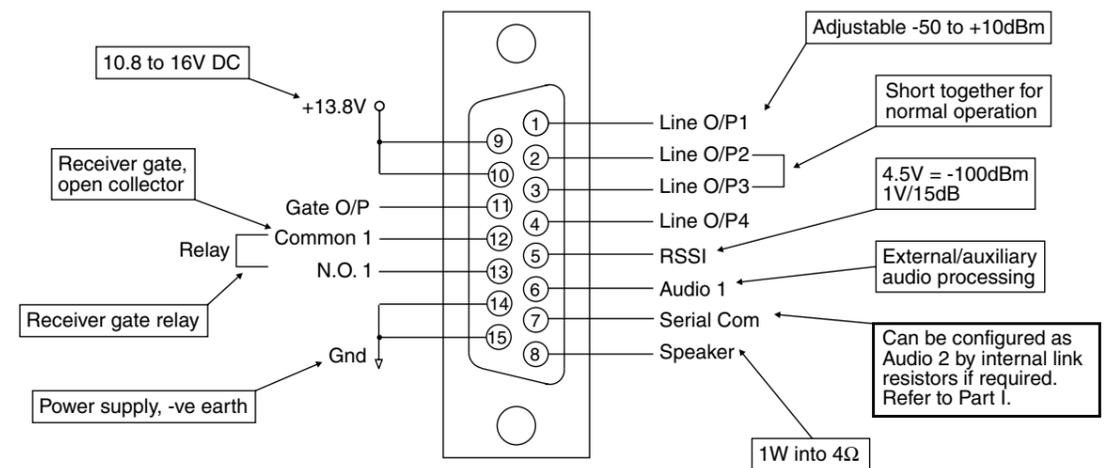
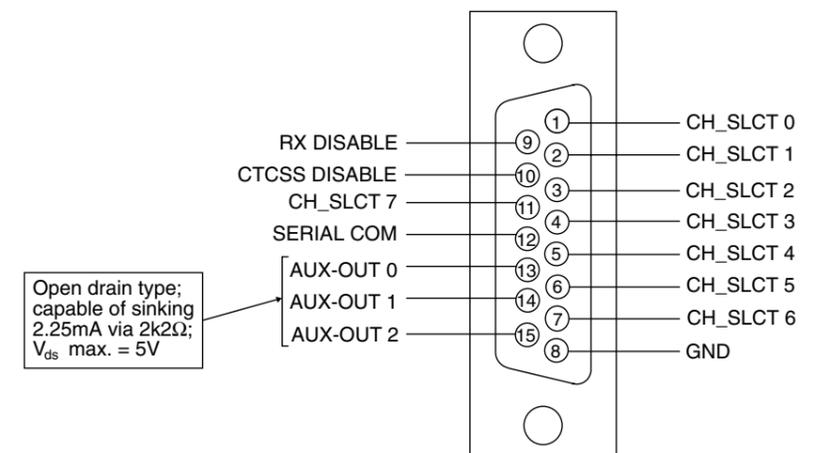

Figure 1.3 T835 D-Range 1 Wiring - Rear View
Figure 1.4 T835 D-Range 2 Wiring - Rear View (standard T800-03-0000 kit)
The D-range input and output connections are shown in Figure 1.3 and Figure 1.4. Ensure that the cables are not subjected to any stresses due to tight bends or incorrect lengths.
**Note:** Figure 1.4 above shows the standard pin allocations for the T800-03-0000 auxiliary D-range kit. A T800-03 auxiliary D-range kit is also available for special applications requiring custom internal wiring.